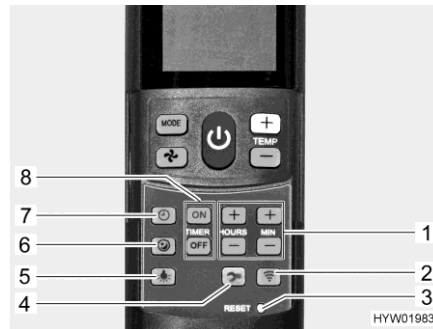

Fig. 193 Remote control with setting buttons (air conditioning unit)
Activating soft-start: ■ Press the soft-start button (Fig. 193,6). The fan then runs at low speed in cooling mode, which makes it especially quiet.
Setting the time: ■ Press the time button (Fig. 193,7).
■ Set the hours and minutes with the buttons (Fig. 193,1).
Programming the switching on time: ■ Press "ON" button (Fig. 193,8).
■ Press the buttons for setting the time (Fig. 193,1) until the desired time span until switch-on is reached.
■ Press "ON" button (Fig. 193,8).
Programming the switch-off time: ■ Press "OFF" button (Fig. 193,8).
■ Press the buttons for setting the time (Fig. 193,1) until the desired time span until switch-off is reached.
■ Press "OFF" button (Fig. 193,8).
Deactivating the timer: ■ Press the "ON" or "OFF" button (Fig. 193,8) again.
Switching on the lighting: ■ Press the light button (Fig. 193,5). The light is switched on at the last set dimming level.
Dimming the lighting: ■ Press the light button (Fig. 193,5) and keep it pressed until the desired brightness is reached.
Switching off the lighting: ■ Press the light button (Fig. 193,5).
- ▷ The Setup button (Fig. 193,4) is used to connect the remote control with the air conditioning unit during first set-up.